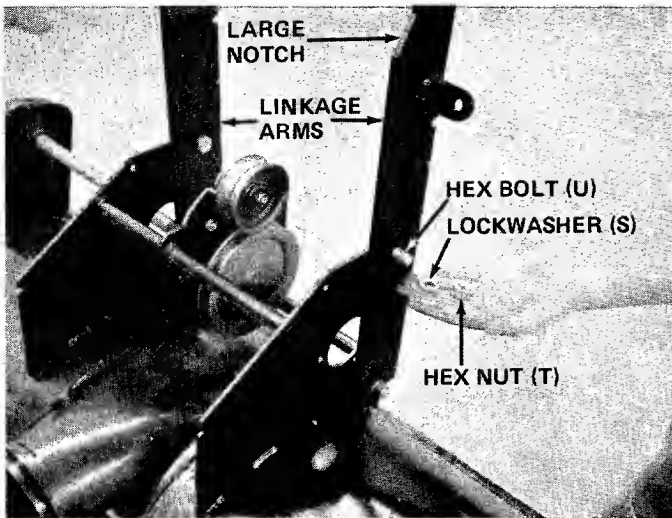

FIGURE 4
3. Assemble the linkage arms (Ref. AE & AF) to the housing assembly as shown in figure 4. Be sure the linkage arms have the large notch up. Secure with four hex bolts (U) 1/2-13 x 1.25" Lg., four hex nuts (T) and lockwashers (S) provided.